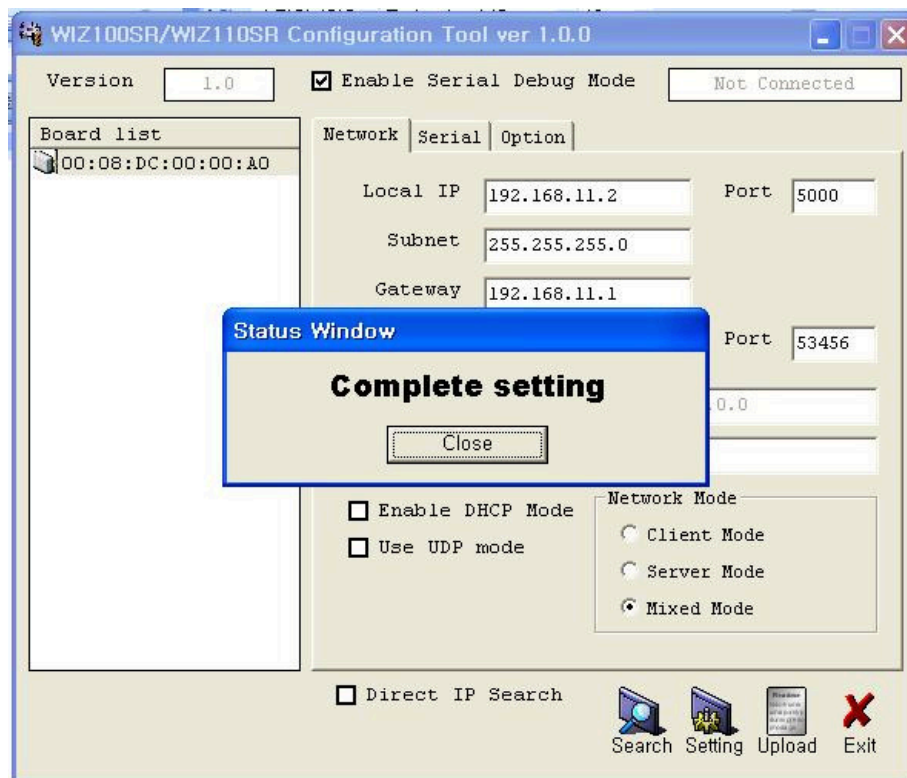

Figure 21. Result Window after Running “Setting”
- ① Make sure the position of the mode switch is normal mode. (If JP4 of the test board is configured as Config mode, the network function is disabled, and the Configuration Tool can not be used.)
- ② Connect the computer and WIZ100SR Test Board by using RS-232.
- ③ Connect the computer and WIZ100SR Test Board by Ethernet cable (Direct or Crossover Cable).
- ④ Power on the WIZ100SR Test Board.
- ① Modules are searched by click search button of the Configuration Tool.
- ② Select the board to be configured and change the value. To apply the changed value, click Setting button.
- ③ If changed value is successfully applied, the “Complete setting” message is displayed as shown in Figure 21.